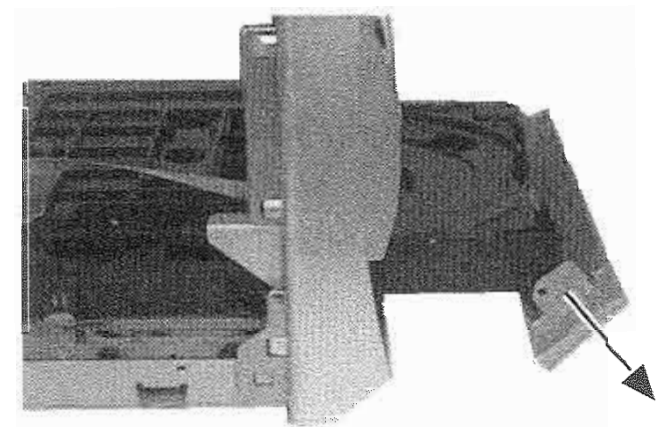

Fig.7
4. Remove the CD tray hitting (Fig.7).